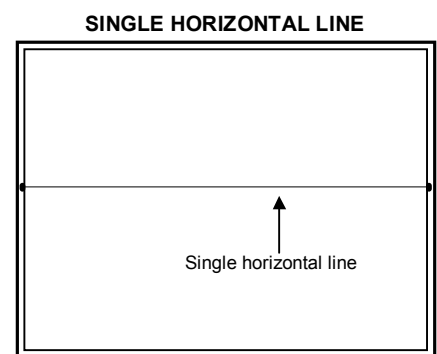

Fig.10
- ② Whenever press the **CHROMA/PHASE** key, change the adjustment colour of R, G and B.
- ③ The single horizontal line service screen appears if press the **CONTRAST/BRIGHT** key (Fig. 10).